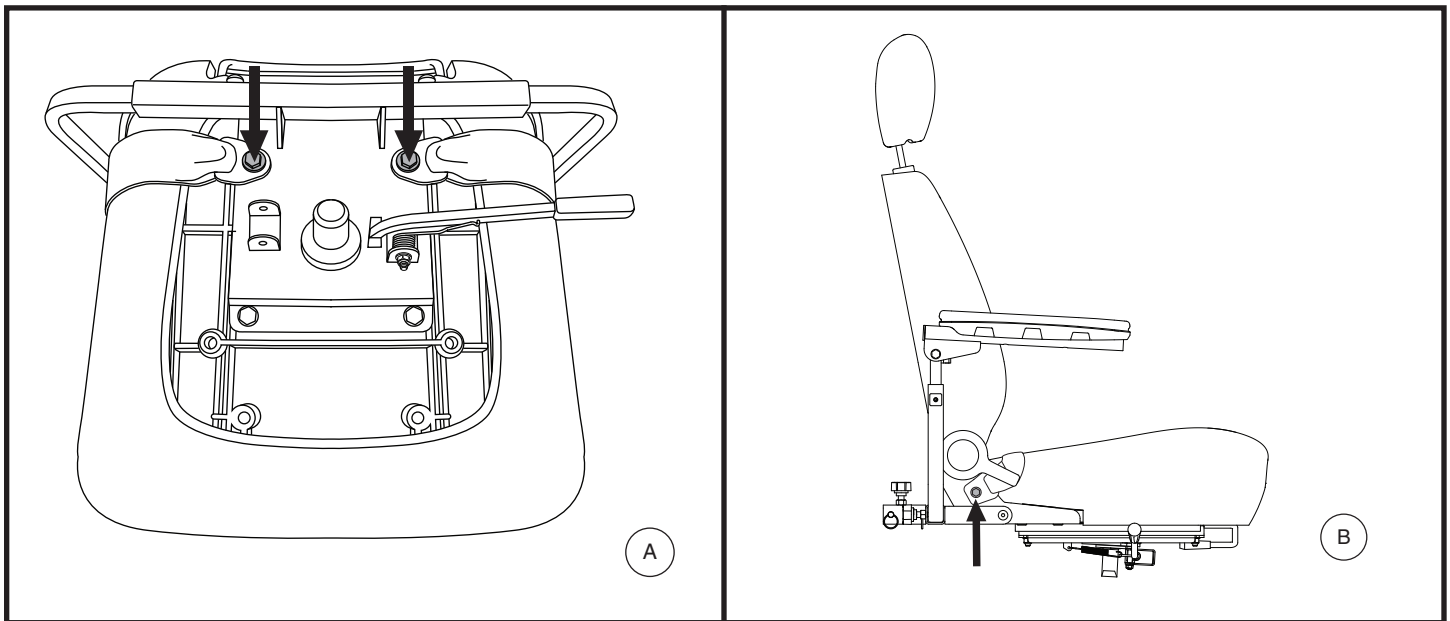

Figure 25. Positioning Belt Bolts
Your scooter seat may be equipped with a positioning belt that can be adjusted for operator comfort. **See figure 25.** The positioning belt is designed to help support the operator so that he or she does not slide down or forward in the seat. The positioning belt is not designed for use as a restraining device.
2. Place the seat upside down so that you can see the bottom of the seat base. See figure 25.